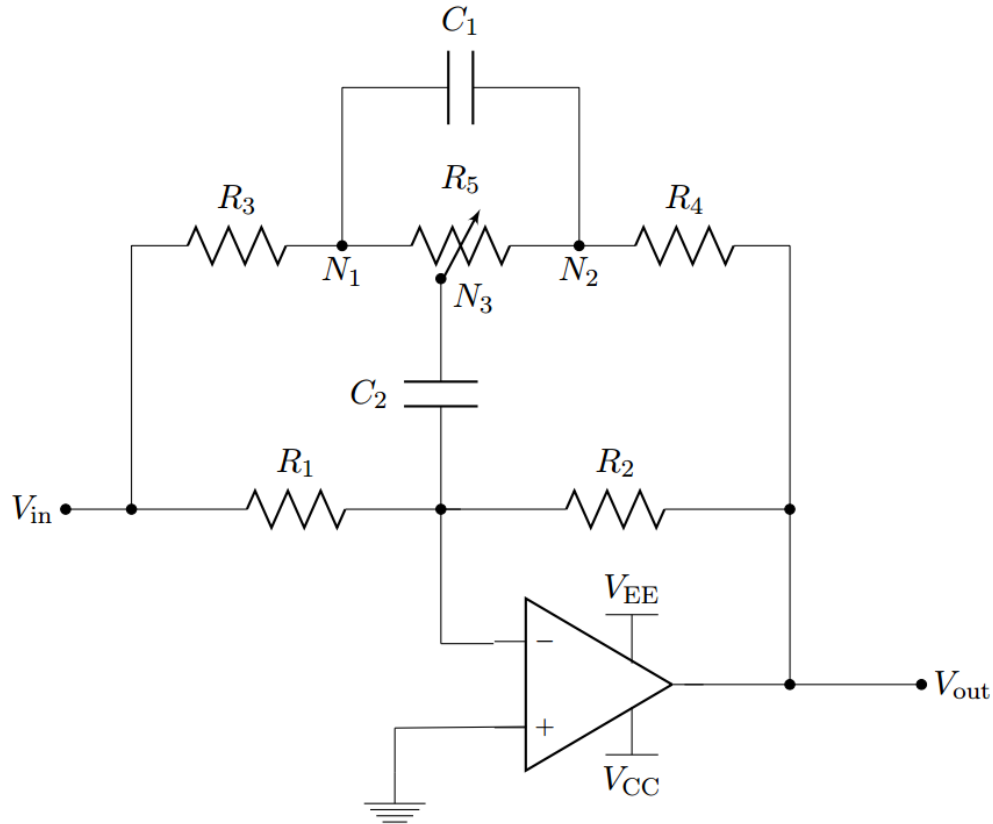

Figure 3.3: Audio equalizer
Figure 3.3 shows the circuit diagram for the equalizer you will build for your audio mixer.
- Use the transform equations to change the  $\Delta$  topology among  $N_1$ ,  $N_2$ , and  $N_3$  in Figure 3.3 to a Y topology, and label the new impedances as  $Z_a$ ,  $Z_b$ , and  $Z_c$ .
Build the circuit in Figure 3.3 using power supplies of  $\pm 12V$  and the components from your design in the Prelab section. The center frequencies are designed for approximately 1kHz. Also build the other two filters whose center frequencies are designed for 250Hz and 4kHz.